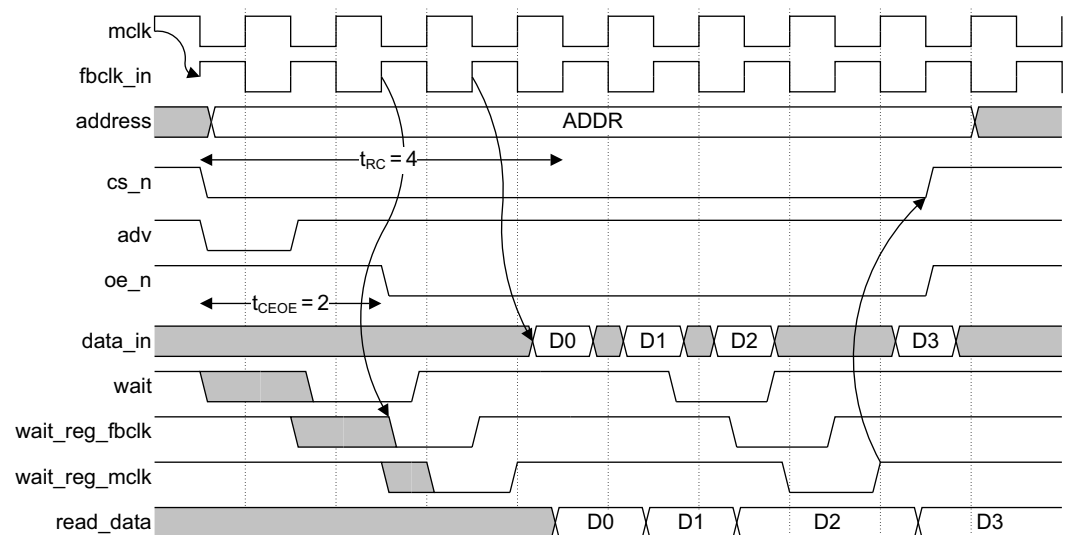
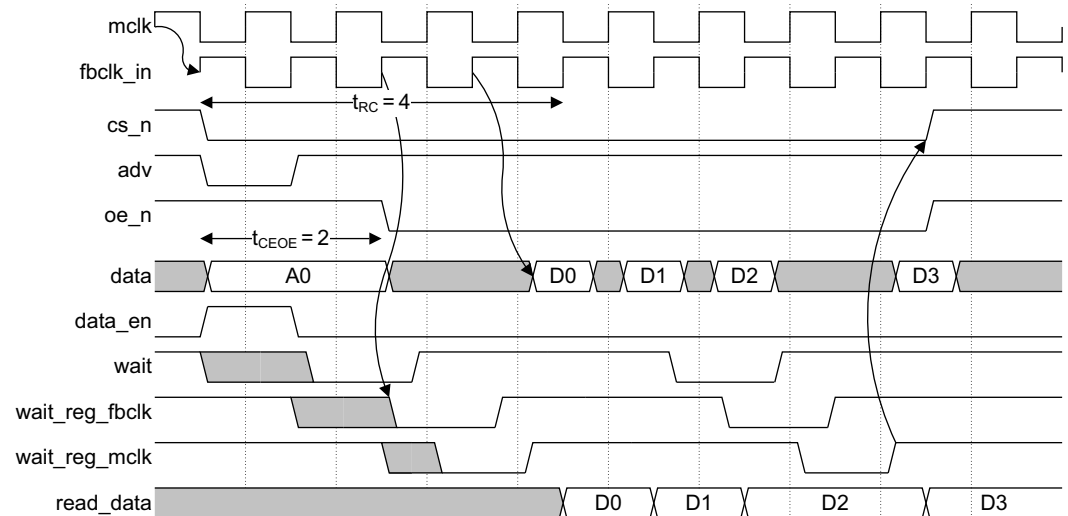

Figure 2-20 Synchronous burst read
Figure 2-21 Synchronous burst read in multiplexed mode
Figure 2-20 shows a burst read with the **wait** output of the memory used to delay the transfer.
- You must set t_{RC} to a value that enables **wait_reg_mclk** to stabilize. See Figure 2-20.
Figure 2-21 shows the same synchronous read burst transfer as Figure 2-20 on page 2-31, but in multiplexed mode.